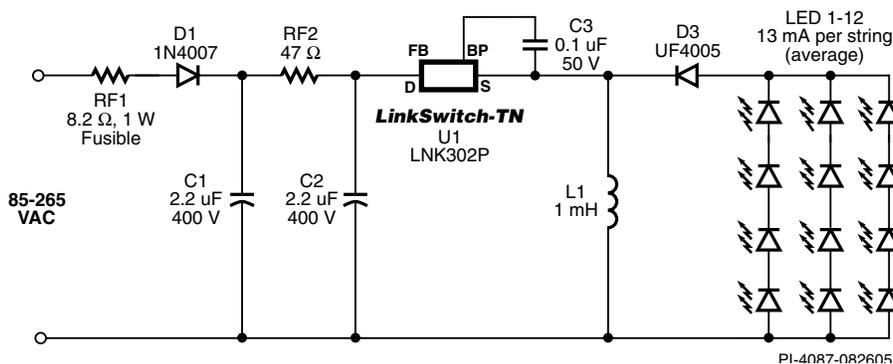

Figure 1. A 0.5 W, 12.9 V, 40 mA Constant Current LED Driver, Using a Non-Isolated Buck-Boost Topology.
Figure 1 shows a simple buck-boost converter, operating in open loop with no output feedback, being used as a constant current LED driver. The circuit relies on the internal current limiting function of the LNK302, which ensures constant current is supplied to the load. Typical uses include night-lights, neon sign replacements, emergency exit signs or any application utilizing LEDs for lighting.
- The circuit shown in Figure 1 has a total output current tolerance of $\pm 12\%$ (including ΔT of 50 °C).
- The circuit shown in Figure 1 uses a low cost resistive pi (π) filter for differential mode filtering. For output power greater than 0.5 W, an inductive pi filter is recommended.
- A second rectifier diode may be placed in the return leg of the AC input (not used in Figure 1). This may give improved EMI performance and better surge withstand capability.